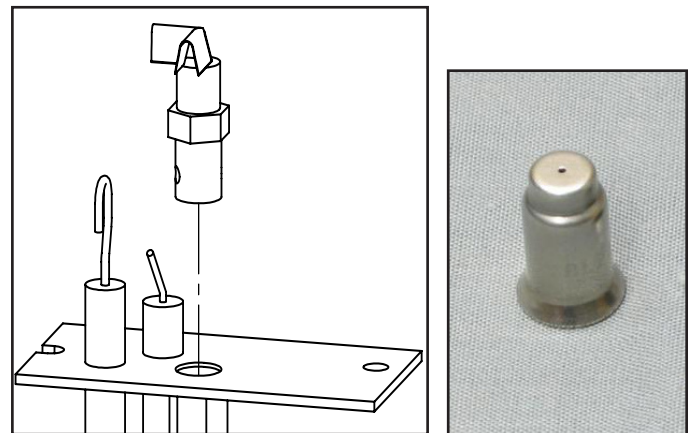

Figure 9: Pilot Conversion & Orifice
- Convert the existing pilot orifice with the one provided in this kit (see Figure 9) using a **7/16" wrench**. Fully unscrew and remove the pilot head and replace the orifice insert, bell end down. Re-install and tighten the pilot, if the head does not reach proper orientation in the snug position then contact your Enviro dealer.